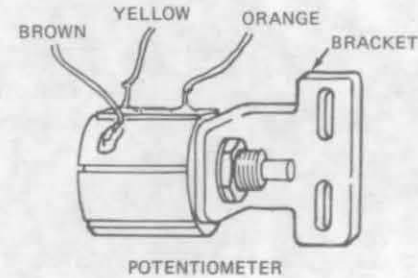

Figure 25
7. Carefully solder the three leads onto terminals of new potentiometer, observing color-coding in Figure 25. Use suitable sealant on soldered joints.